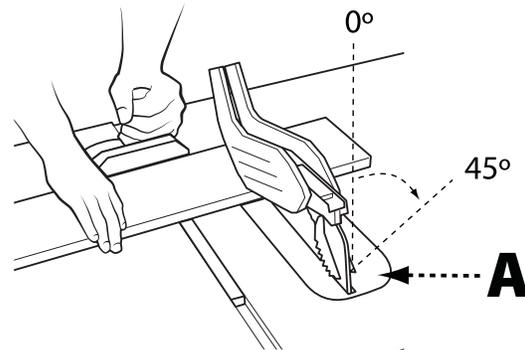

FIGURE 29
Bevel crosscutting is the same as crosscutting except the bevel angle (A) is set to an angle other than 90°. When making a bevel crosscut, place the miter gauge in the right miter slot so that the blade is tilted away from the gauge and hands. See Figure 29.